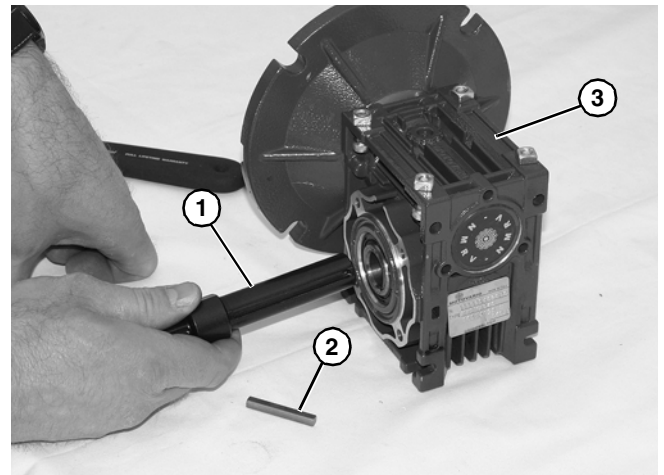

Figure 31
2. Remove driveshaft (**Figure 31, item 1**) and key (**Figure 31, item 2**).
3. Replace gear reducer (**Figure 31, item 3**).
5. Replace the original shaft components into new gear reducer (**Figure 31**).